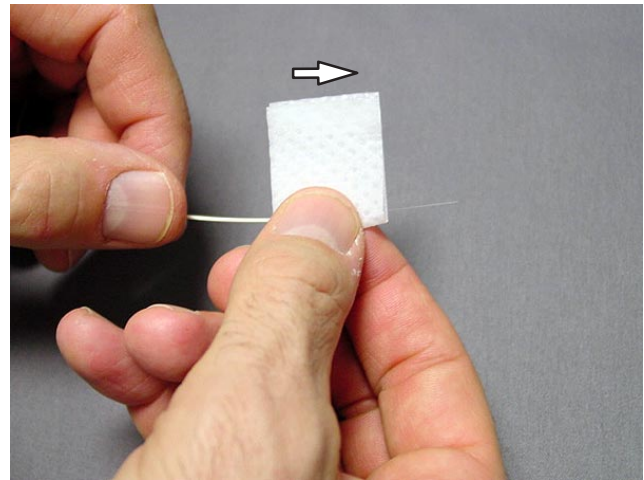

Figure 36
8. Clean the fiber using a lint-free alcohol wipe with >91% ISO. Applying a light squeeze wipe several times (pulling in the direction away from the buffer) as this ensures the fiber is clean. The tensile force that is applied at the same time serves as a proof test to assure fiber integrity after the coating/buffer is removed. If the fiber breaks, start over, and repeat the stripping process. Repeat occurrences of fiber breakage may indicate method or tooling issues which should be investigated. Do not lay the fiber down. Go directly to next step in order to ensure the cleaned fiber is not contaminated. See Figure 36.